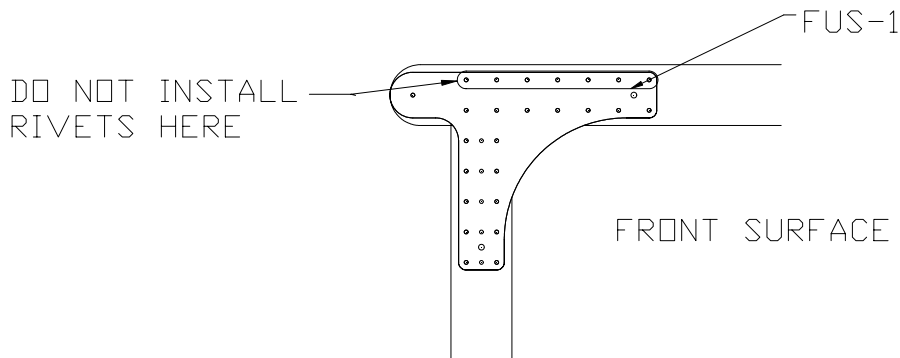

Figure 9.5.5
- 7) Drill all the holes out to #11. Drill the four (4) outside holes at each end of the rear FUS-5 carry through to 7/16". These holes will allow insertion of the bolts and a 3/8" socket. Bolt and rivet together. See figure 9.5.5 to 9.5.7 for details.